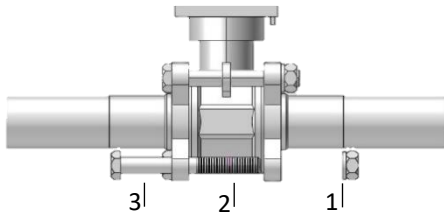

Figure 15: Valve body - disassembly
5. Unscrew nuts **1** completely, see Figure 15.